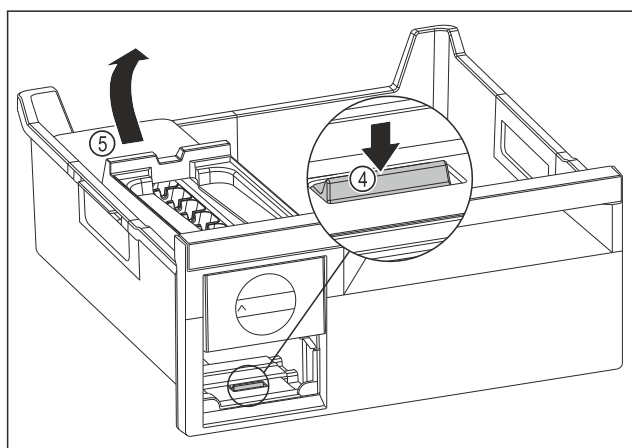

Fig. 171
- Removing the EasyTwist-Ice body: Use your finger to push the tab Fig. 171 (4) down and use your other hand to lift the EasyTwist-Ice body Fig. 171 (5) from behind at the same time.